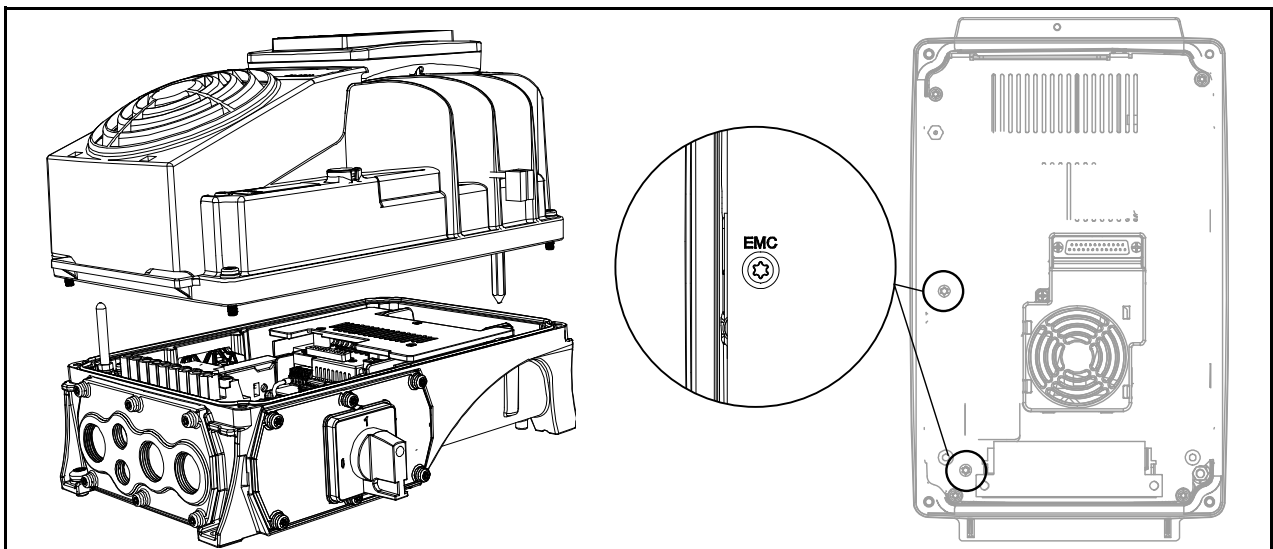
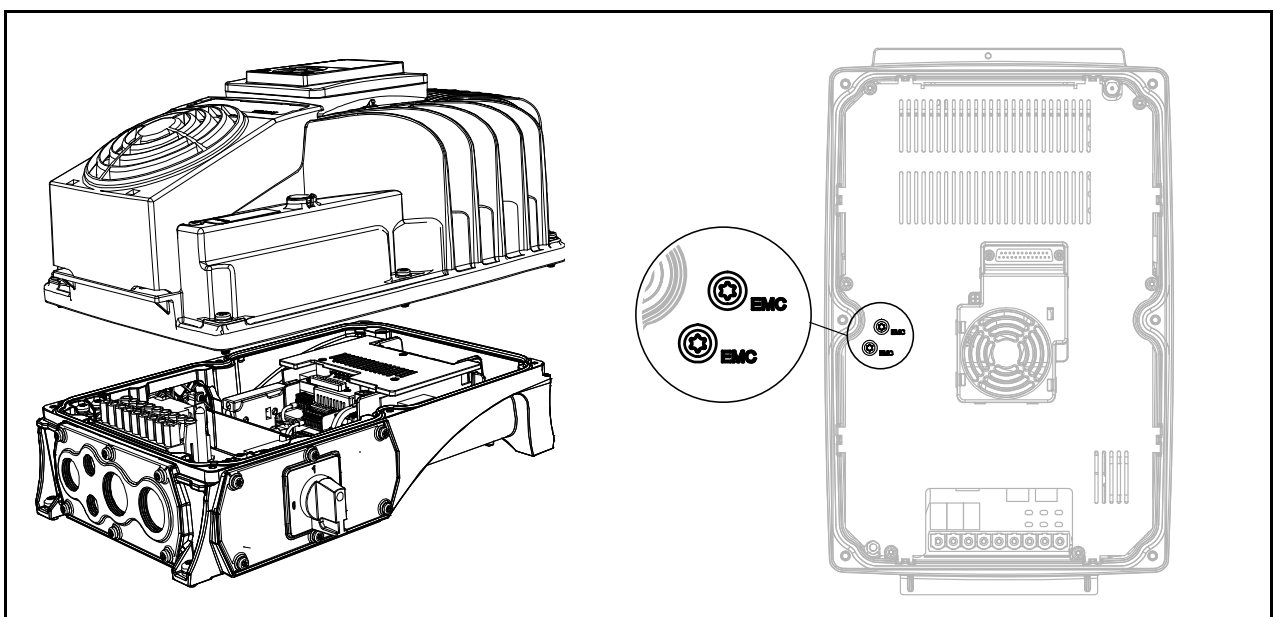
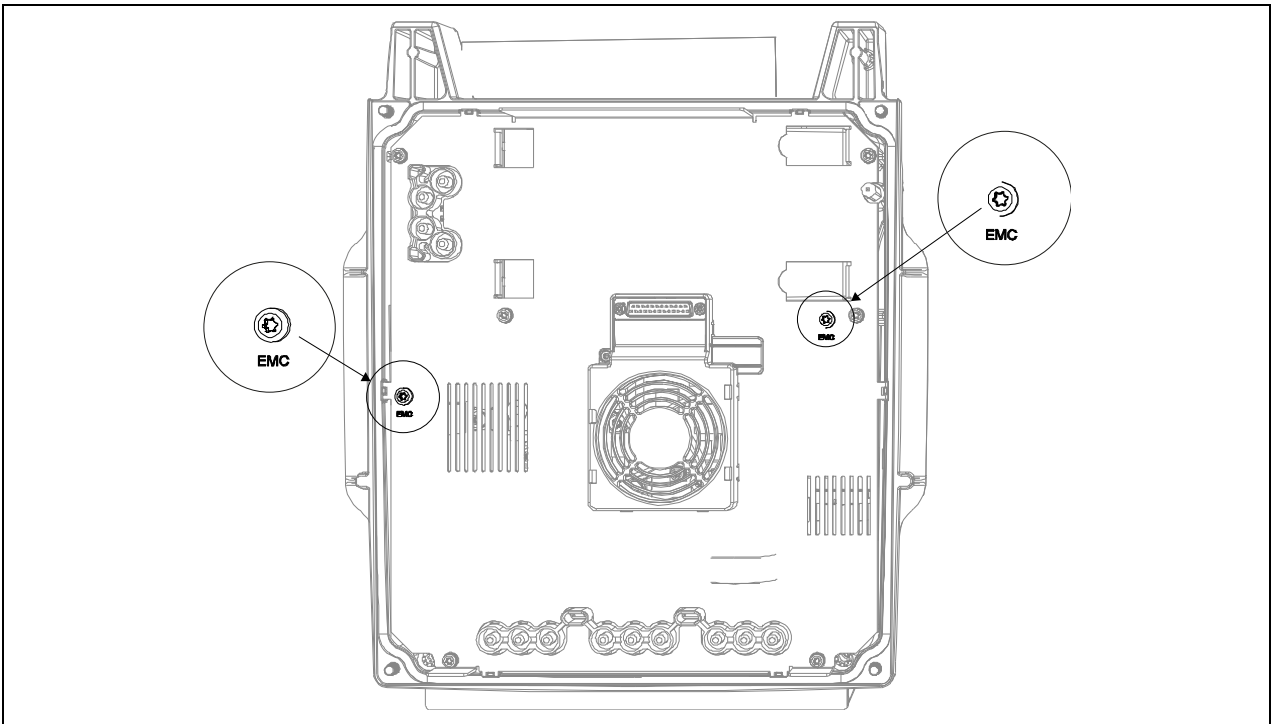

Figure 37. Locations of EMC screws in MM4.
Figure 38. Locations of EMC screws in MM5.
Figure 40. Locations of EMC screws in MM6.
- 1 Separate the powerhead and the terminal box. Turn the powerhead upside down and remove the two screws marked in Figure 37 (for MM4), Figure 38 (for MM5) and in Figure 40 (for MM6).